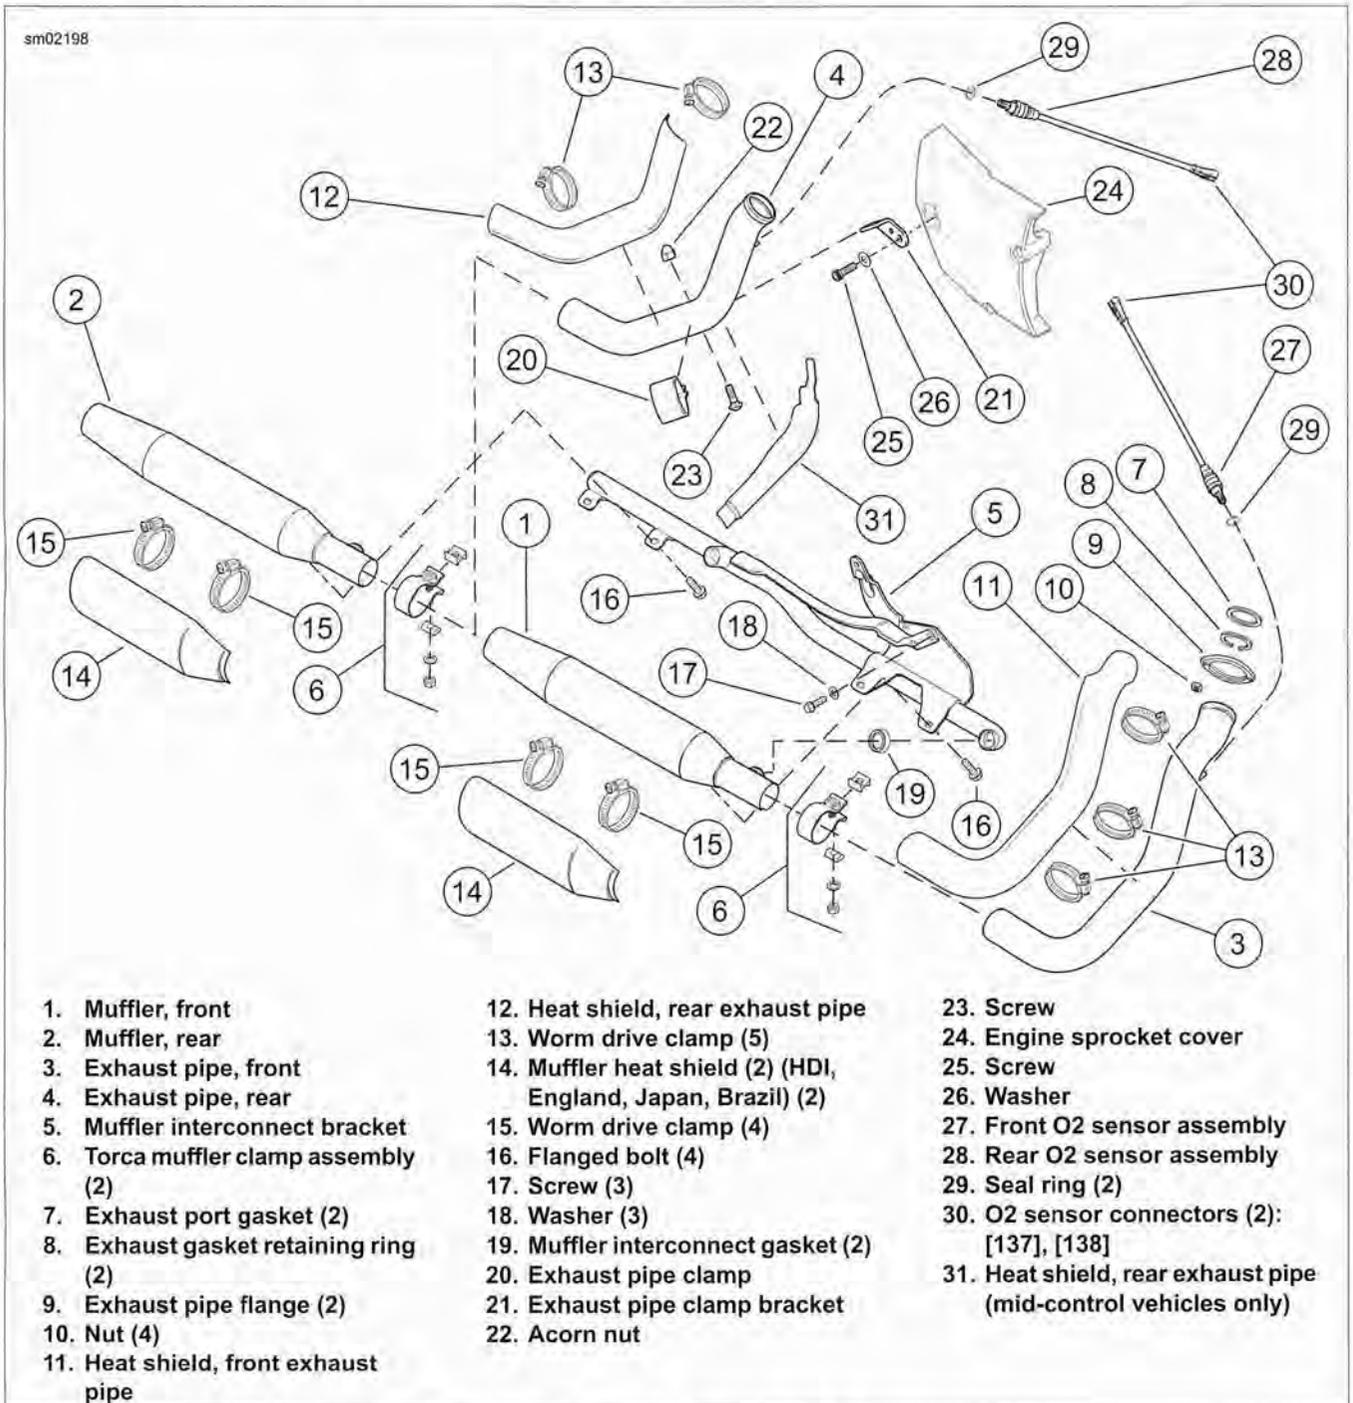
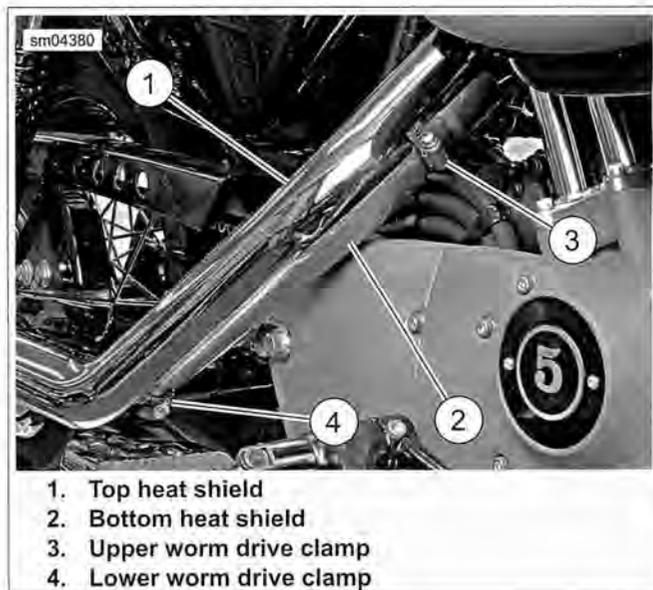

Figure 4-64. Exhaust System, All XL Models
Figure 4-65. Rear Exhaust Pipe Heat Shields: Vehicles with Mid Controls
See Figure 4-65. Vehicles with mid controls are equipped with an extra heat shield (2) on the rear exhaust pipe.
- See Figure 4-64. Remove heat shields:
- Models with Mid Controls:** Remove worm drive clamps (13) from heat shield (12) completely. Remove bottom heat shield.
- All Models:** Open worm drive clamps (13) and remove exhaust pipe heat shields (11, 12).
- HDI, England, Japan, Brazil Models:** Open worm drive clamps (15) and remove muffler heat shields (14).
- Unplug O2 sensor connectors (30). Front connector [138] is mounted on left front frame downtube. Rear connector [137] is attached to the ECM caddy on the left side of the vehicle.
- Remove nuts (10) from front and rear cylinder head exhaust studs.
- Remove flanged bolts (16) securing front and rear mufflers (1, 2) to muffler interconnect bracket (5).
- Loosen Torca muffler clamp assemblies (6) on front and rear mufflers. Remove mufflers. Discard muffler interconnect gaskets (19).
- See Figure 4-64. Remove three screws (17) and washers (18) securing muffler interconnect bracket (5) to engine crankcase. Remove muffler interconnect bracket.
- See Figure 4-64. Install muffler interconnect bracket (5) to engine case with three screws (17) and washers (18). Tighten to 30-33 ft-lbs (40.7-44.8 Nm).
- See Figure 4-64. If the front and rear O2 sensor assemblies (27, 28) are being reused, install **new** seal rings (29) onto each sensor. Apply a thin coat of anti-seize to the sensor threads.
- Place exhaust pipe flange (9), exhaust gasket retaining ring (8) and **new** exhaust port gasket (7) over front end of each exhaust pipe (3, 4). Position flange so that inside counterbore faces cylinder head exhaust port.
- Position front ends of front and rear exhaust pipes into front and rear cylinder heads, respectively. Position holes in flanges over mounting studs and loosely install nuts (10). Do not tighten nuts at this time.
- Install exhaust pipe clamp (20) on rear exhaust pipe (4) with square hole facing down. Assemble exhaust pipe clamp to exhaust pipe clamp bracket (21) with screw (23) and acorn nut (22). Make sure bracket fits between ends of clamp. Do not tighten at this time.
- Install **new** muffler interconnect gaskets (19) in interconnect mating holes in mufflers (1, 2).
- Place **new** Torca clamp assemblies (6) over slotted end of each muffler. Install each muffler onto the end of its respective exhaust pipe.
- Rotate both mufflers until their mounting bosses line up with holes in muffler interconnect bracket. Carefully mate each muffler with exhaust port in interconnect bracket. Loosely install flanged bolts (16). Do not tighten at this time.
- Tighten rear exhaust pipe clamp nut (22) to 20-30 ft-lbs (27.1-40.7 Nm).
- Plug in O2 sensor connectors (30). Front connector [138] is mounted on left front frame downtube. Rear connector [137] is attached to the ECM caddy on the left side of the vehicle. See 4.13 OXYGEN SENSOR.
- a. Open worm drive clamps (13) and install heat shields (11, 12) on exhaust pipes. Position each clamp so that screw is on the outboard side in the most accessible position.
- b. **Models with Mid Controls:** See Figure 4-65. Tighten lower worm drive clamp (4) a few turns. Slide lower portion of bottom heat shield (2) into lower worm drive clamp. Engage upper portion of bottom heat shield